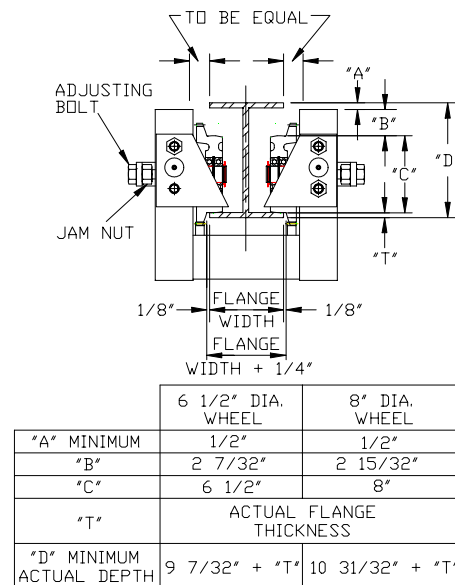

Figure 3.
- Before assembling the girder to the end trucks, the trucks must be properly spaced. When ever possible, measure the widest flange width on the actual runway to be used. Use this flange width in Figure 3.
- Loosen the jam nut and position the wheels by turning the adjusting bolt to give the dimensions in Figure 3. Once the wheel is in the desired location retighten the jam nut.